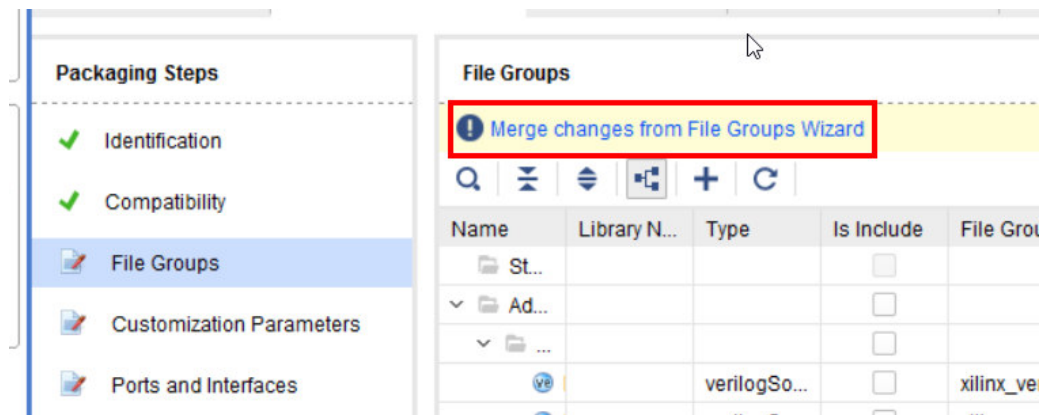

Figure 13: Merging file groups
24. Click on the **File Groups** tab and click **Merge changes from File Groups Wizard** (Figure 13). Since you just added the new *user_logic.v* file to the **IP**, you will need to update the **IP Packager** with the changes. This step will do just that. If you expand the **Verilog Synthesis** tree, you will notice that the *user_logic.v* file was added.